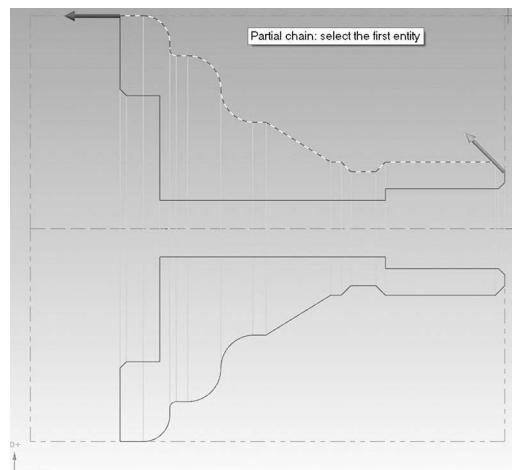

Figure 5-66 Lathe Rough OD Chain
- Follow the prompt to select the last entity in the chain, as shown in Figure 5-66.